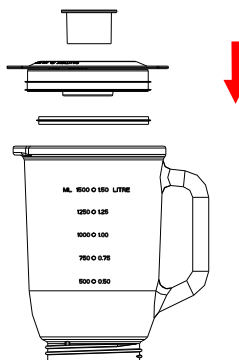

Fig.4
- 3.2 Reposition the jar assembly with its opening upwards. Wrap the seal ring 1 around the lid bottom and put the lid onto the jar assembly. Place the measure cup exactly into the lid by fitting the small projection on the both sides of the cup into the slots of the lid and turning the cup clockwise until tight. (See Fig.4)